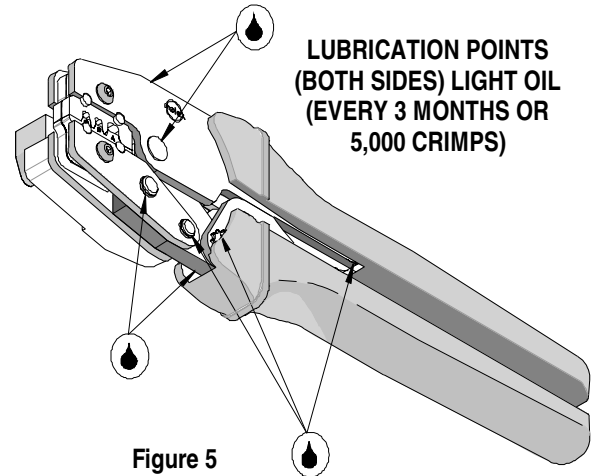

Figure 5
3. Make certain all pins; pivot points and bearing surfaces are protected with a thin coat of high quality machine oil. Do not oil excessively. The tool was engineered for durability but like any fine piece of equipment it needs cleaning and lubrication for a maximum service life of trouble free crimping. Light oil (such as 30 weight automotive oil) used at the oil points, shown in Figure 5, every 5,000 crimps or 3 months, will significantly enhance the tool life.